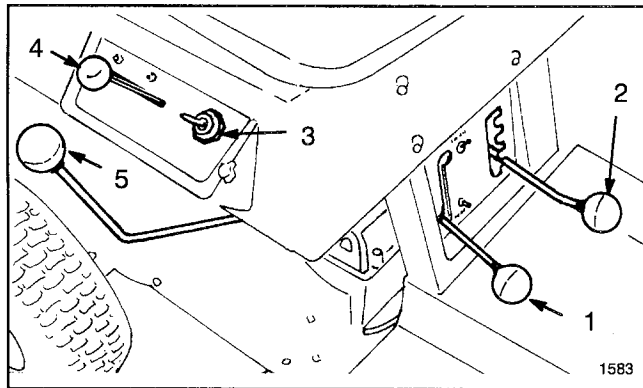

Figure 5
Gear Shift (Fig. 5)—The transmission has five forward speeds, neutral, and reverse. The gear shift lever is located on right side of operator. An interlock switch, which prevents engine from being started when transmission is in gear, is mounted on top of transmission.
Blade Control (Fig. 5)—Blade control engages and disengages the cutter blade. An interlock switch prevents engine from starting when control is in the ENGAGE position. Engine will start when control is in the DISENGAGE position only.
Throttle Control (Fig. 5)—Throttle control connects to and operates carburetor—mounted throttle and choke. Control has three positions: SLOW, FAST and CHOKE.
Height-of-Cut (Fig. 5)—Height-of-cut control varies the cutting height from approx. 1-1/2 to 3-1/2 inches in five increments.
Ignition Switch (Fig. 5)—Switch has three positions: ON, OFF and START.
2. Move gear shift into neutral and blade control into DISENGAGE detent (Fig. 5).
3. Move throttle control to CHOKE position (Fig. 5) when starting a cold engine. However, a hot engine requires no choking. Move throttle to FAST position for starting.
4. Rotate ignition key (Fig. 5) to START position. When engine starts, release the key and move throttle between FAST and SLOW if choke was used for starting. Operate the rider with throttle control in FAST (full throttle) position for best performance.
1. Move blade control into DISENGAGE detent (Fig. 5).
2. Move height-of-cut control (Fig. 5) into desired setting.